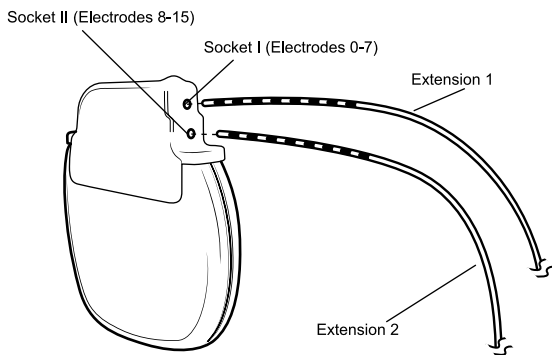

Figure 1. Insert the extension connectors into the neurostimulator.
3. Insert each extension connector into the appropriate neurostimulator socket until it is seated fully within the connector block (Figure 1).